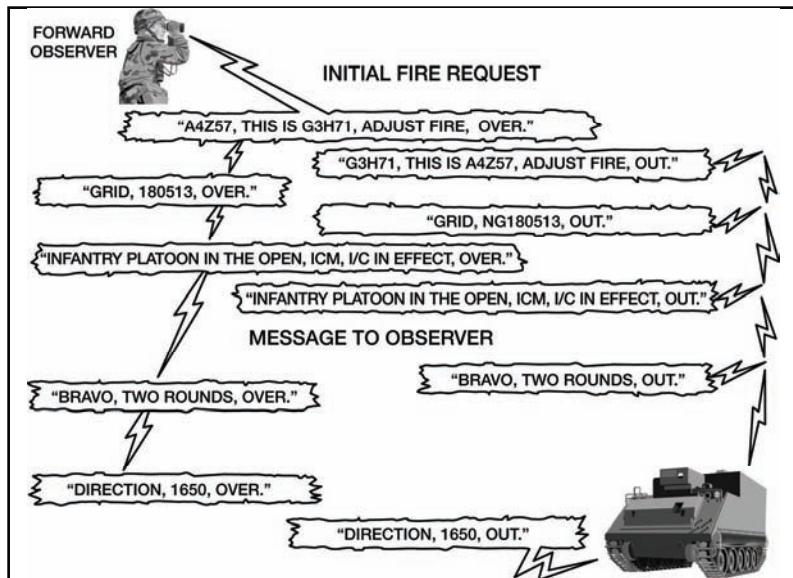

Figure 061-283-6003-1. Initial fire request
- (6) Method of fire control. The request for a fire mission would be similar to figure 061-283-6003-1.